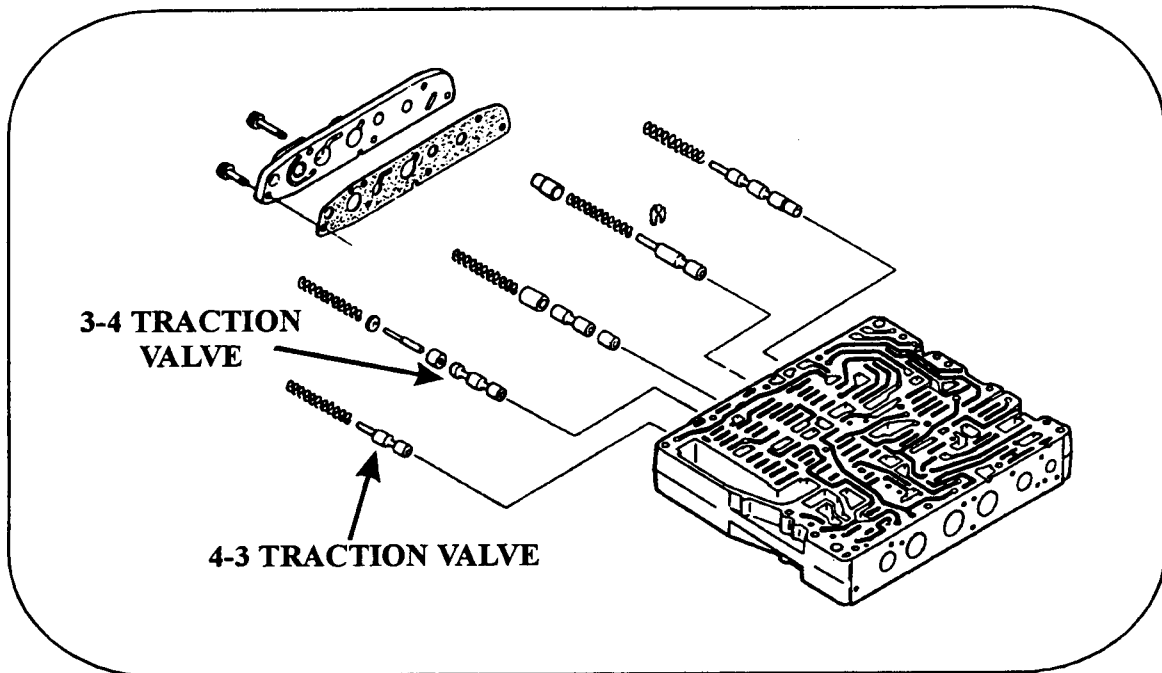

Figure 18
**CAUSE:** One cause may be that either the 3-4 or 4-3 traction valve in the valve body has stuck in a stroked position preventing forward clutch apply (See Figure 18).